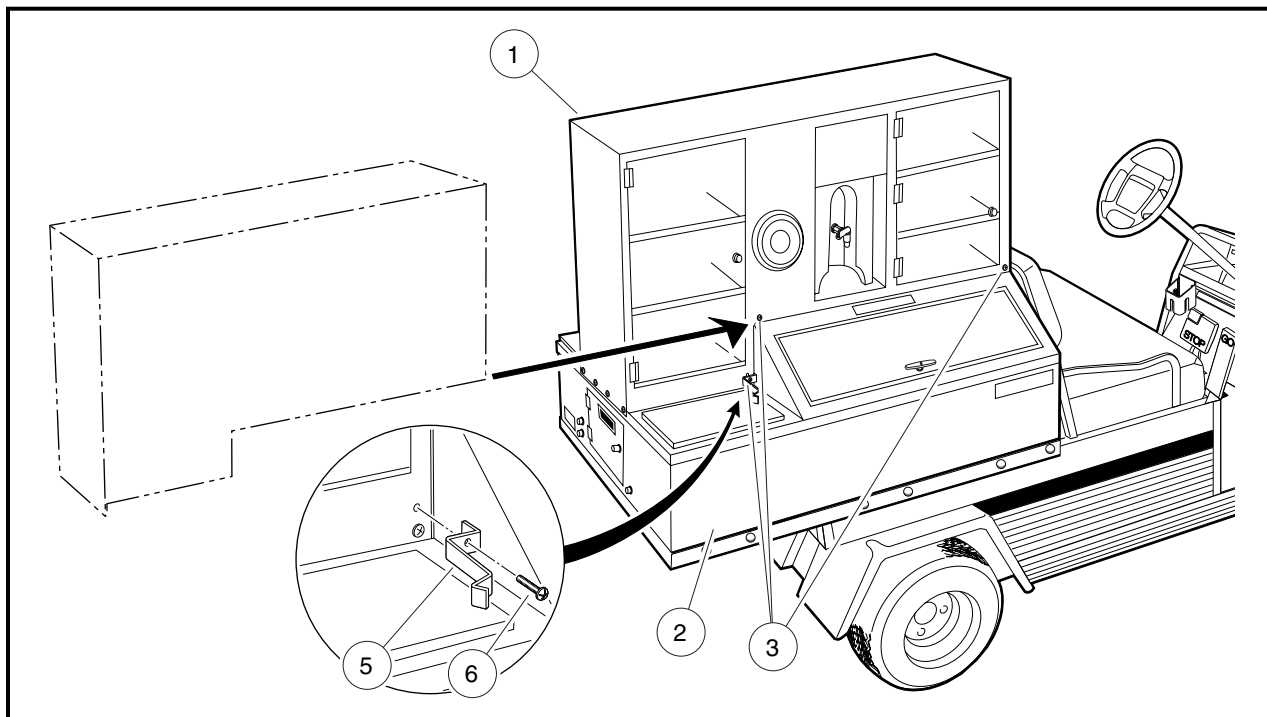

Figure 2 Upper Cabinet Installation
NOTE: The tallest end of the cabinet will be installed toward the rear of the vehicle as shown (**Figure 2**).
1. With the aid of an assistant, slide the upper cabinet (1) forward using the angle brackets (with nut inserts) on the base unit (2) as a guide. The upper cabinet must be on the outside of the angle brackets.
2. Align holes in upper cabinet with the nut inserts in angle brackets on base unit. Secure with three 1/4-20 x 3/4 phillips pan-head screws (with patch) (3) on each side, four at rear and four at front. Tighten all screws to 50 in-lb (5.6 N·m). **See following CAUTION.**
3. Locate the hole in the corner just above the consumable ice compartment door. **See Detail in Figure 2.** Slide the clip (5) in between the upper cabinet and base unit as shown. Secure the clip to the upper cabinet with a #10 x 5/8 phillips pan-head screw (with patch) (6). Tighten screw to 18 in-lb (2.0 N·m). Install remaining clip at opposite side of vehicle using same procedure. **See following CAUTION.**